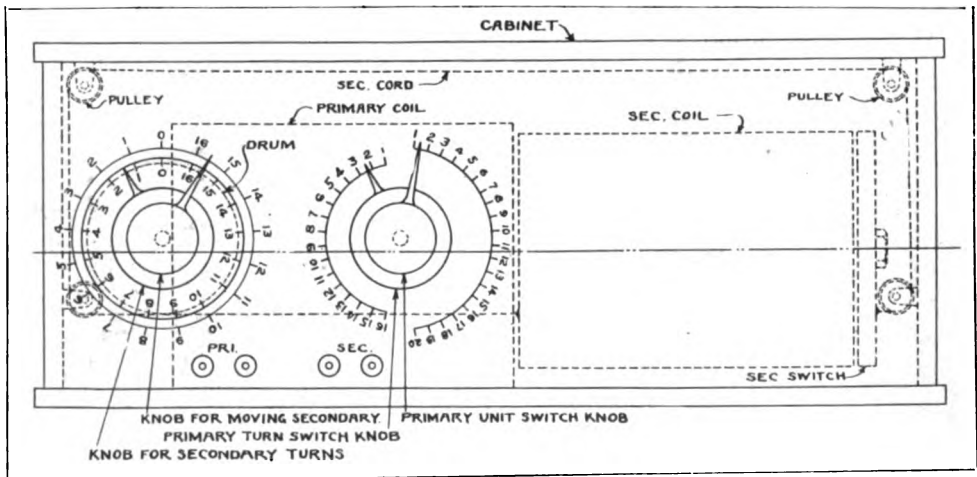

Fig. 1, First Prize Article
**THE CABINET.**—This tuner is preferably mounted in a hard wood cabinet after the manner shown in Fig. 1. The four knobs used in controlling the various devices previously described are indicated in Fig. 1. Each knob has an indicating needle or pointer which rotates over a graduated dial on the front of the cabinet.